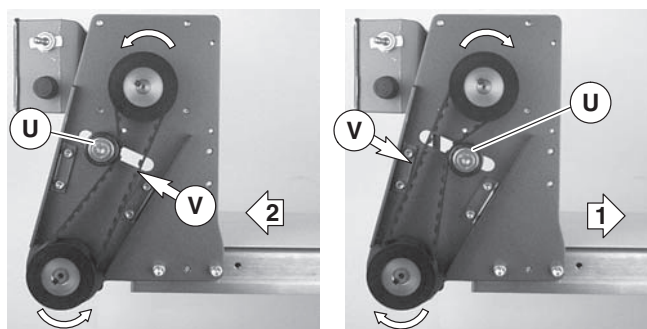

Figure 12
8. Depending on direction of conveyor belt travel (1 or 2 of Figure 12), position timing belt tensioner (U) as shown. Tension timing belt to obtain 1/8" (3 mm) deflection for 1 lb (456 grams) of force at timing belt mid-point (V). Tighten tensioner screw to 106 in-lb (12 Nm).